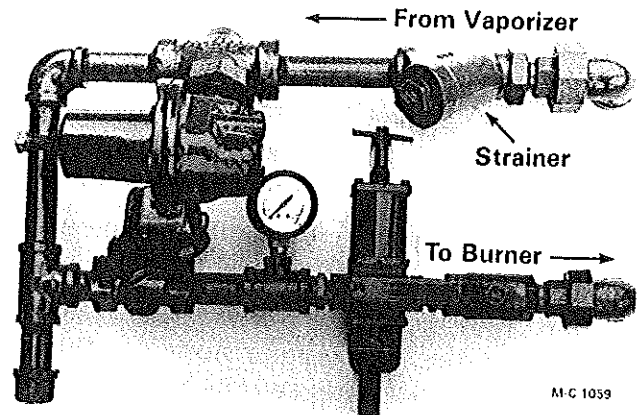

Figure 16 - LP Gas Manifold
A. Check the LP Gas line from the vaporizer coil to the pressure regulator with your hand, see Figure 16.